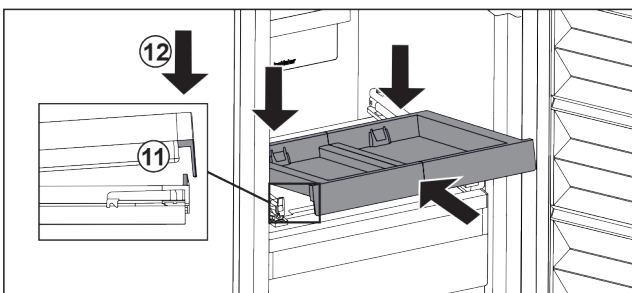

Fig. 100
- ▶ Slide in at an angle. Make sure that the stop is behind the lug on both sides. Fig. 100 (11)
- ▶ Lower the pull-out board at the front. Fig. 100 (12)